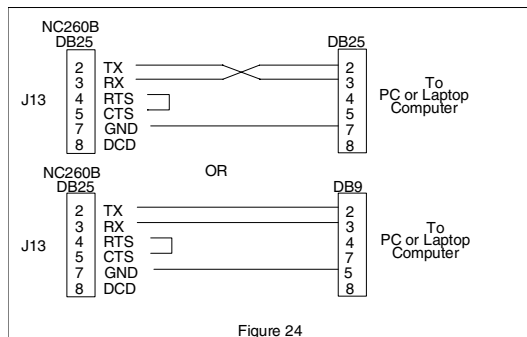

Figure 24
(Refer to Figure 24)
- A. Connect the prepared null modem cable (Refer to Figure 24) between the appropriate serial port on the PC or laptop computer and connector J-13 on the NC260B motherboard, then turn on S1-5 and S1-7 (Refer to Figure 26).